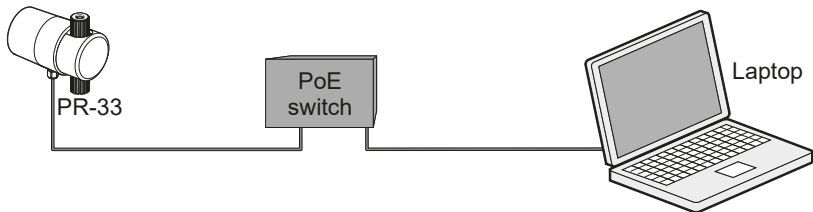

Figure 2 Simple network configuration
This address belongs to the Zeroconf addresses (as defined in IETF standard RFC 3927) so that it can easily be reached from a stand-alone computer as shown in Figure 2 \(page 9\), usually without changing the network settings of the computer.
- Set up a network of only one refractometer, PoE switch, and a computer as shown in Figure 2 \(page 9\).